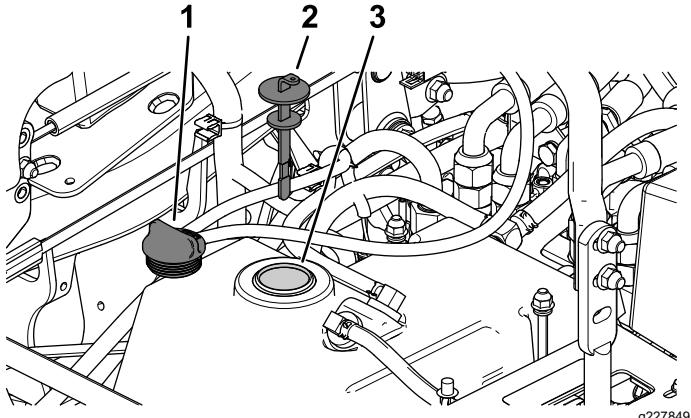

Figure 70
- Remove the hydraulic-tank cap (Figure 70).
- Remove the dipstick and wipe it with a clean rag (Figure 70).